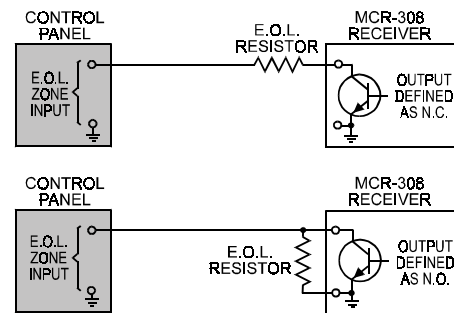

Figure 6. Wiring E.O.L. Zones
- Note:** If the control panel zone inputs are defined as E.O.L., you must use appropriate E.O.L. resistors (see Figure 6).